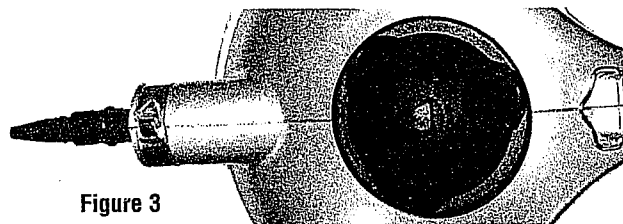

Figure 3
6. Replace the Safety Cap; turn clockwise, grip the Cap firmly and press down to completely tighten. (See Figure 3.)